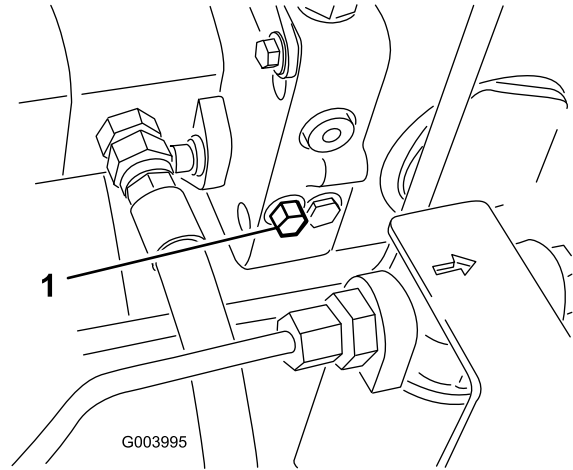

Figure 41
1. Rotate the bypass-valve bolt 1-1/2 turns to open and allow oil to bypass internally (Figure 41).